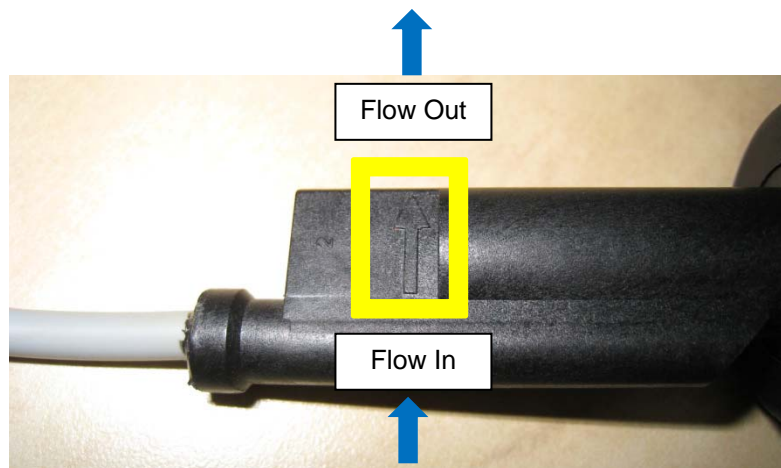

Figure 1
1. The flow switch has an arrow on the side that needs to be aligned with the direction of flow (Figure 1). Check to see if this arrow is aligned correctly. Properly align the arrow with the direction of flow and check to see if DHW is now available. If DHW is not available proceed to step 2.